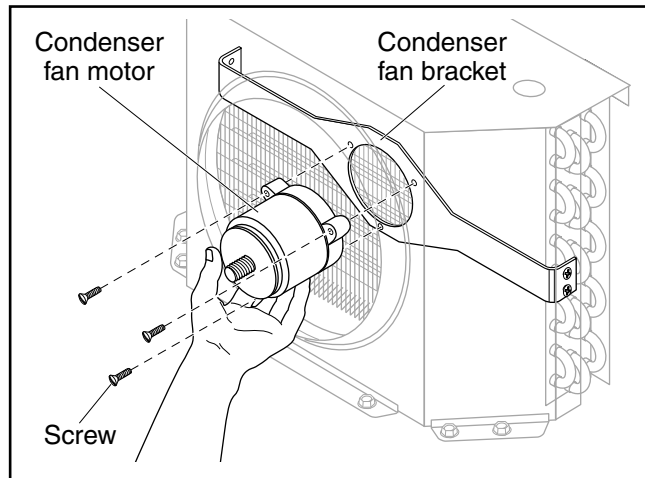

Figure 10. Condenser Fan Motor
5. While supporting the condenser fan motor, remove three screws securing the condenser fan motor to the condenser fan bracket (Figure 10).